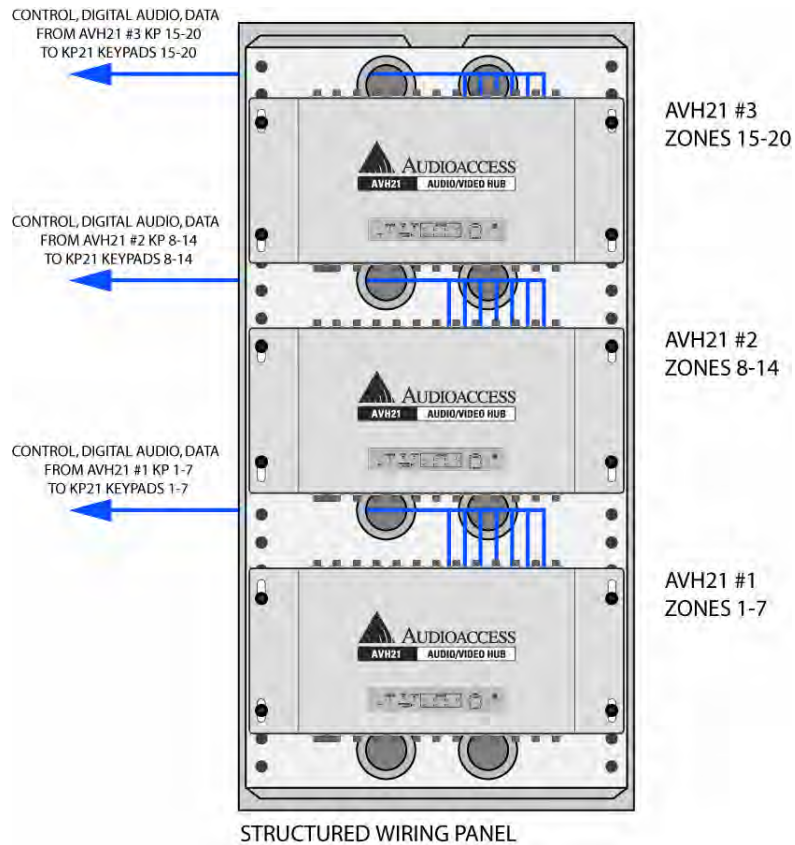

Figure 92 AVH21 Keypad Connections
1. Using CAT5e cable properly terminated with RJ45 connectors, connect the cables to the appropriate KP21 Keypad Terminals, **KP 1-7 [pentagon 5]** on the AVH21. As shown in **Figure 92**. Confirm proper connection by zone (Keypad number). Improper connection of the wrong keypad to the wrong terminal will cause operational errors.
2. In larger systems using multiple Hubs, repeat step 1 for all keypad connections to AVH21 #s 1, 2 and 3. Confirm all connections by zone (keypad number) as shown in **Figure 92**.